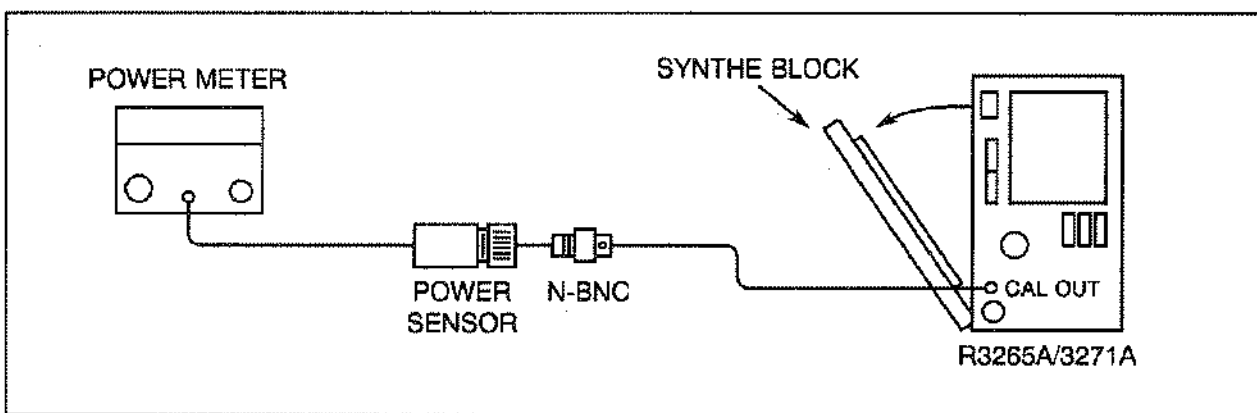

Figure 5-13 Calibrator Amplitude Adjustment Setup
- (1) Turn off the POWER switch of the R3265A/3271A, and disconnect the power cord. Remove the analyzer cover, place the analyzer as shown in Figure 5-13, and fold down the SYNTHE BLOCK assembly.
- (2) Turn on the POWER switch of R3265A/3271A, and warm it up at least 30 minutes before starting adjustment.
- (3) Zero and calibrate the power meter in the Log Display mode. Enter the 25MHz CAL FACTOR signal of the power sensor to the power meter.
- (4) Connect the R3265A/3271A through an N-BNC adapter directly to the CALOUT jack on the R3265A/3271A front panel.
- (5) Adjust R151 of the SYNTHE block for a -10.00 dBm reading on the power meter display.